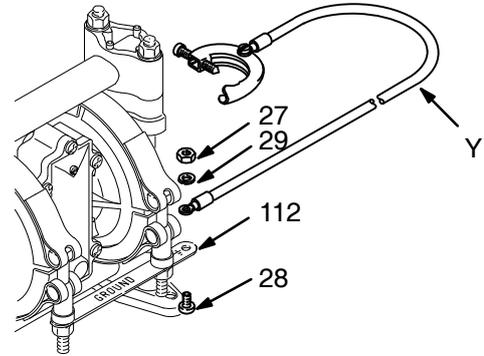

Fig. 1
- *Pump:* Attach a ground wire (Y) to the grounding strip (112) with the screw (28), lockwashers (29) and nut (27), as shown in Fig. 1. Connect the clamp end of the ground wire to a true earth ground. Order Part No. 819.0157 Ground Wire and Clamp.